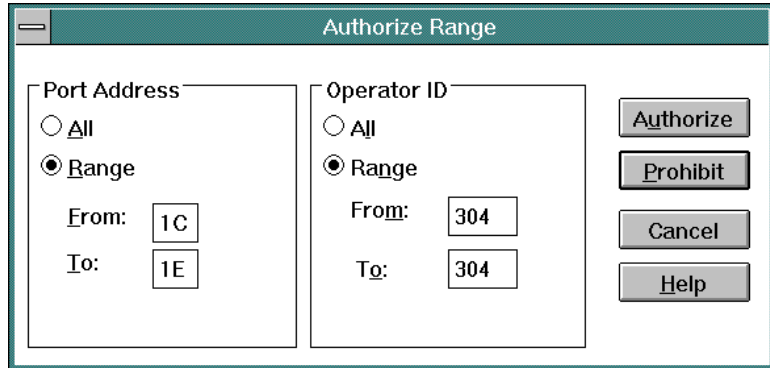

Figure 10-10. Authorize Range Dialog Box (LPAR Example)
8. At the *Port Authorization* dialog box, click the *Range* button. The *Authorize Range* dialog box appears (Figure 10-10).
11. At the *Port Authorization* dialog box, click the *Range* button. The *Authorize Range* dialog box appears again (Figure 10-10).